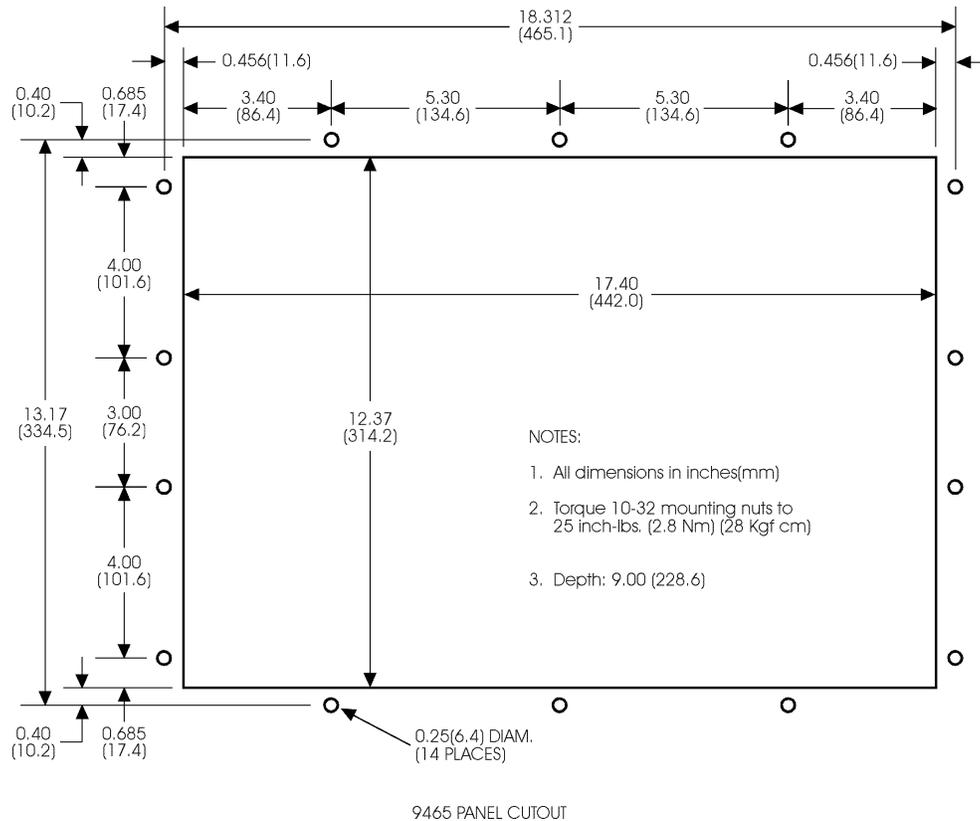

Figure 3-23. System Cutout Dimensions
2. Cut the hole according to the cutout dimensions in Figure 3-23.